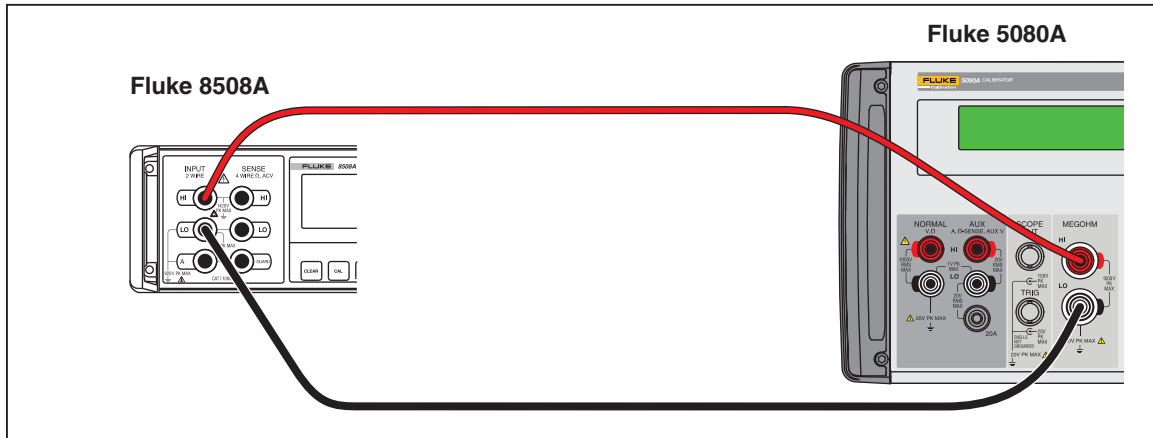

Figure 5. High Resistance Source Calibration Connections
1. Connect the high resistance source output to the input terminals of a standard multimeter in 2-wire configuration as shown in Figure 5.